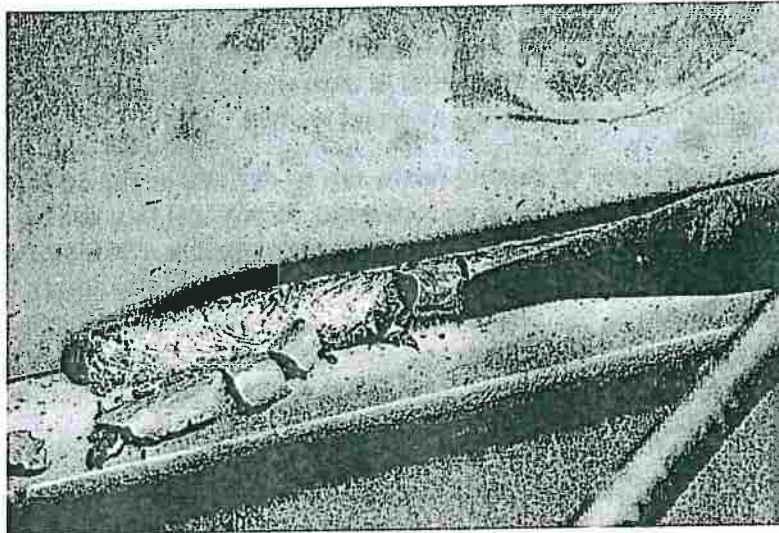

Figure 8. Slag Removal
**Slag Removal:** A protective slag covering forms in SMAW welding. This slag has several functions: it protects the weld as it cools from contaminants, it shapes the weld bead, and it holds the weld in place for out of position welding. Elements are placed in the coating for the sole purpose of forming a slag to perform these functions. However, slag must be chipped off for multiple pass welding (Fig. 8). If the slag is not chipped off, a weld defect called a slag inclusion can occur. In this case,